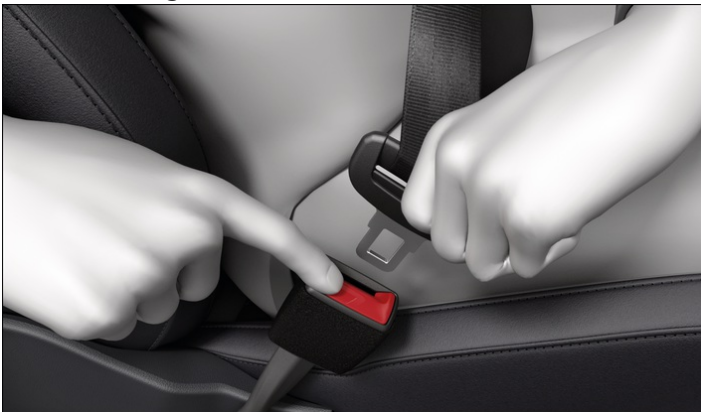

Fig. 2 Removing the latch plate from the buckle.
1. Press the red button in the buckle → *Fig. 2*.